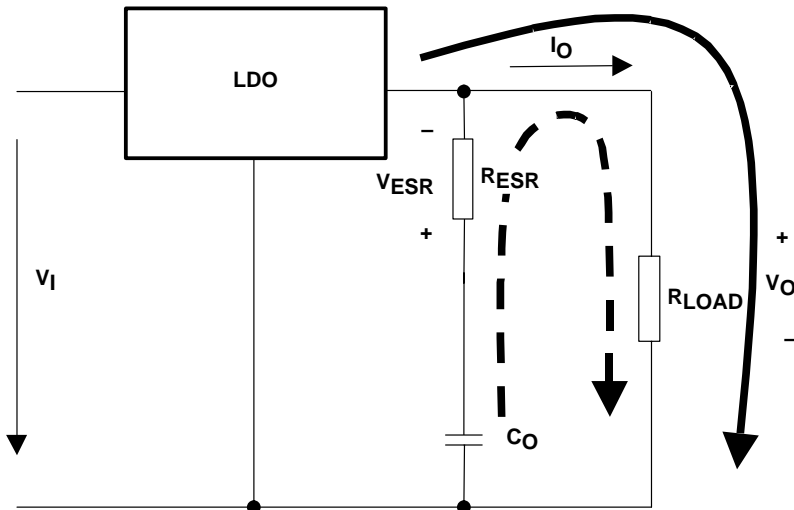
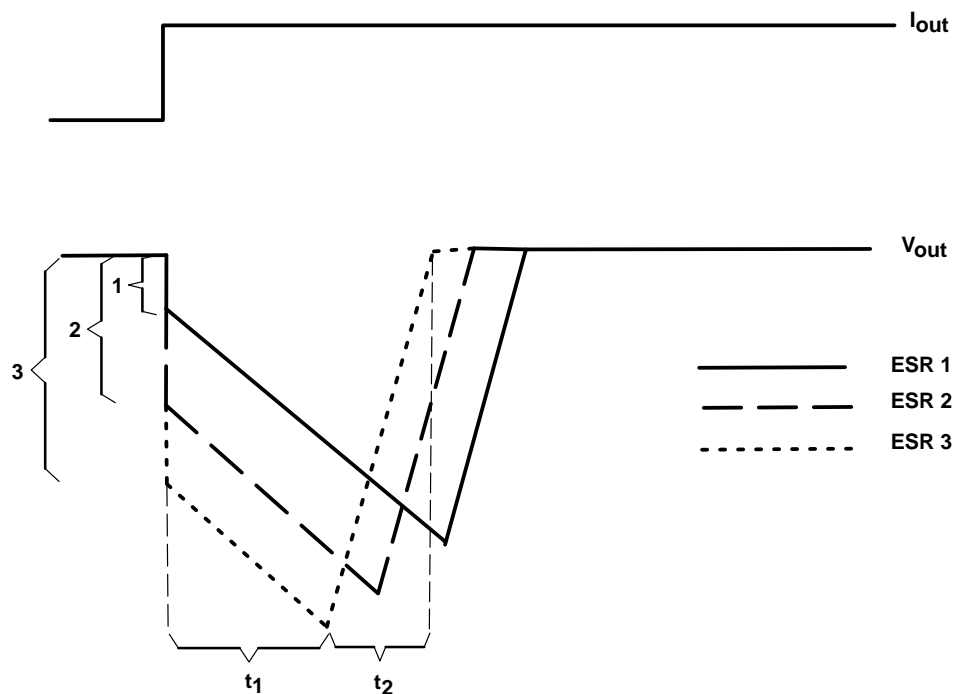

Figure 22. LDO Output Stage With Parasitic Resistances ESR and ESL
Figure 23. Correlation of Different ESRs and Their Influence to the Regulation of V_{out} at a Load Step From Low-to-High Output Current
Figure 22 shows the output capacitor and its parasitic impedances in a typical LDO output stage.
- The LDO is not able to supply the sudden current need due to its response time (t_1 in Figure 23). Therefore, capacitor C_{out} provides the current for the new load condition (dashed arrow). C_{out} now acts like a battery with an internal resistance, ESR. Depending on the current demand at the output, a voltage drop will occur at R_{ESR} . This voltage is shown as V_{ESR} in Figure 22.
- When C_{out} is conducting current to the load, initial voltage at the load will be $V_{out} = V_{Cout} - V_{ESR}$. Due to the discharge of C_{out} , the output voltage V_{out} will drop continuously until the response time t_1 of the LDO is reached and the LDO will resume supplying the load. From this point, the output voltage starts rising again until it reaches the regulated voltage. This period is shown as t_2 in Figure 23.